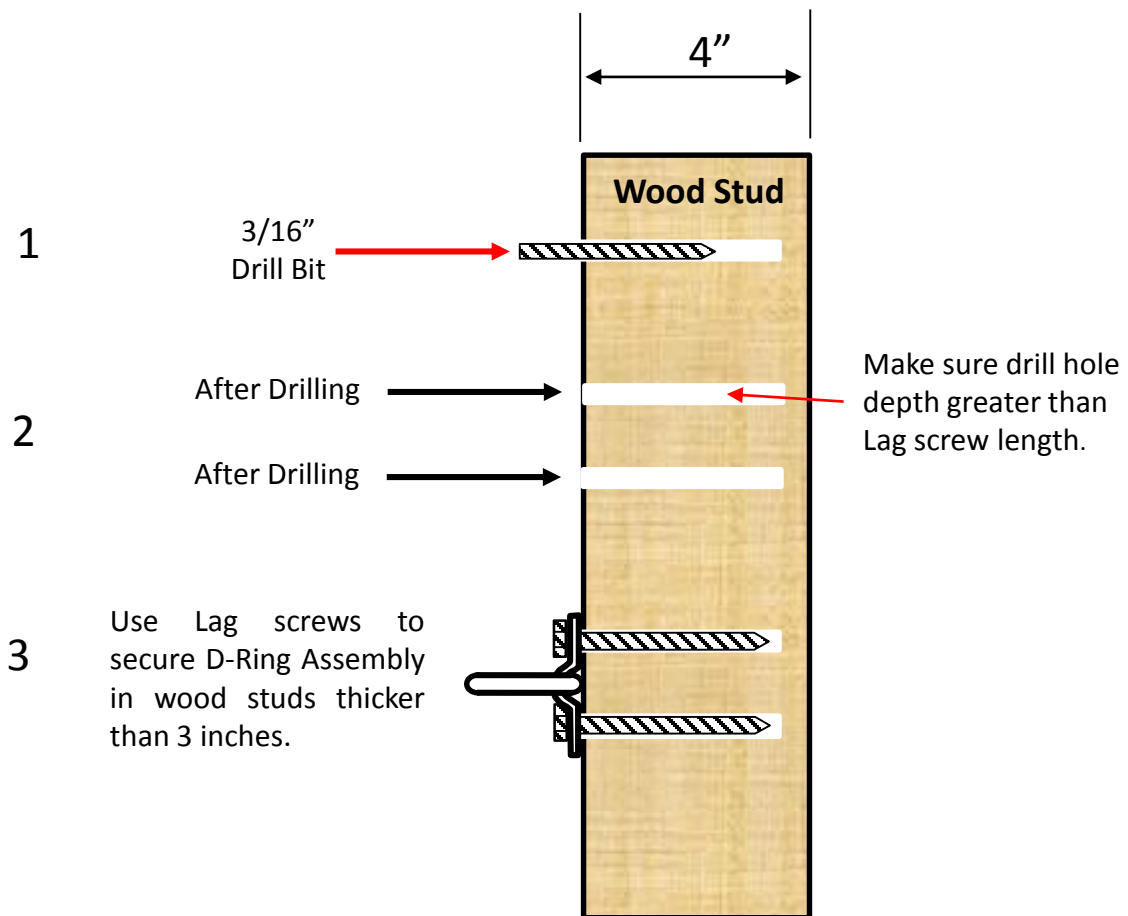
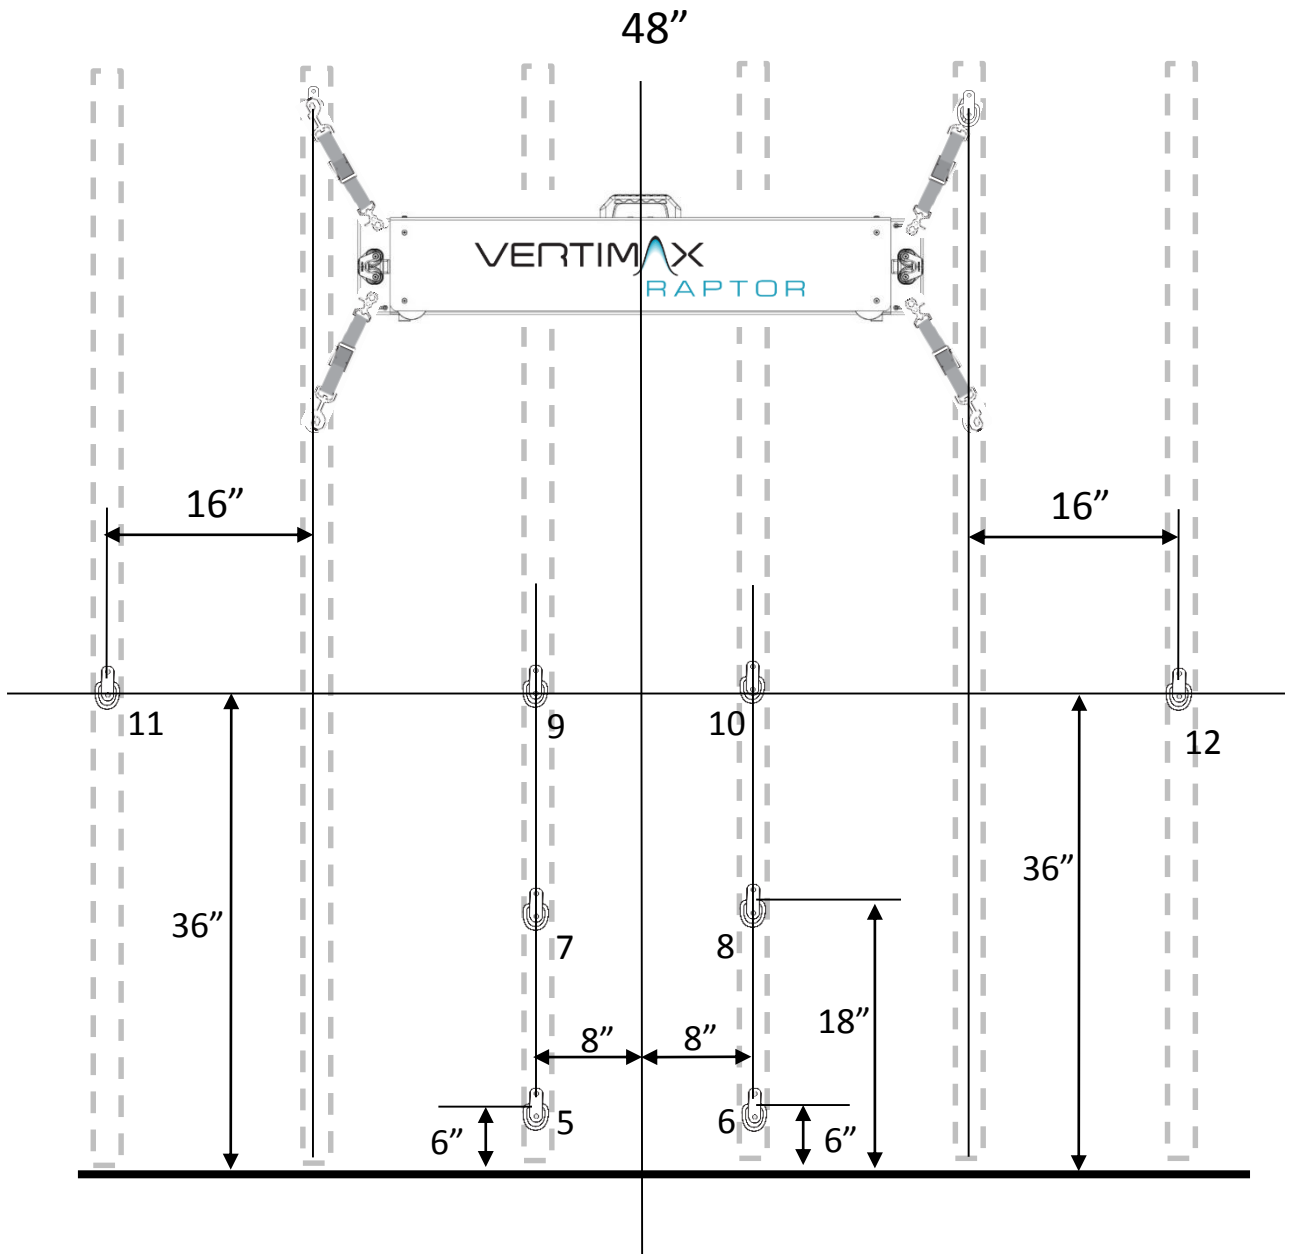

Figure 21 (Drilling Into Solid Wood Studs)
Figure 28
Step 3 – Using the 3/16” wood drill bit, drill out all eight mounting holes. Reference Figure 21 and accompanying notes to indicate how holes are drilled and what fastening hardware is used to attach the D-Rings to the wall. Attach all four D-Rings to an approved wall structure making sure the drill holes to mount the D-Rings are exactly centered on the wood studs.
Step 3 — Referencing Figure 21, use the 3/16" drill bit that comes in Kit 3 to drill out each of the eight marked mounting holes. Use a 7/16" wrench to screw in each of the two lag screws required to fasten each of the four D-Ring assemblies to the wall.
Step 3 – Using the 3/16" wood drill bit, drill out all eight mounting holes. Reference Figure 21 and accompanying notes to indicate how holes are drilled and what fastening hardware is used to attach the D-Rings to the wall. Attach all four D-Rings to an approved wall structure making sure the drill holes to mount the D-Rings are exactly centered on the wood studs. After mounting the four Raptor support D-Rings the D-Ring configuration on the wall with Raptor attached to the wall should appear as shown in Figure 28.
Step 4 – If you choose to mount the Raptor unit horizontally, reference Figure 28 below for suggested locations for the remaining 8 D-Rings which are diagramed for placement on the wall. Use the marking and drilling procedures outlined in Steps 1-8 to mark and drill mounting holes for D-Rings 5 thru 12.